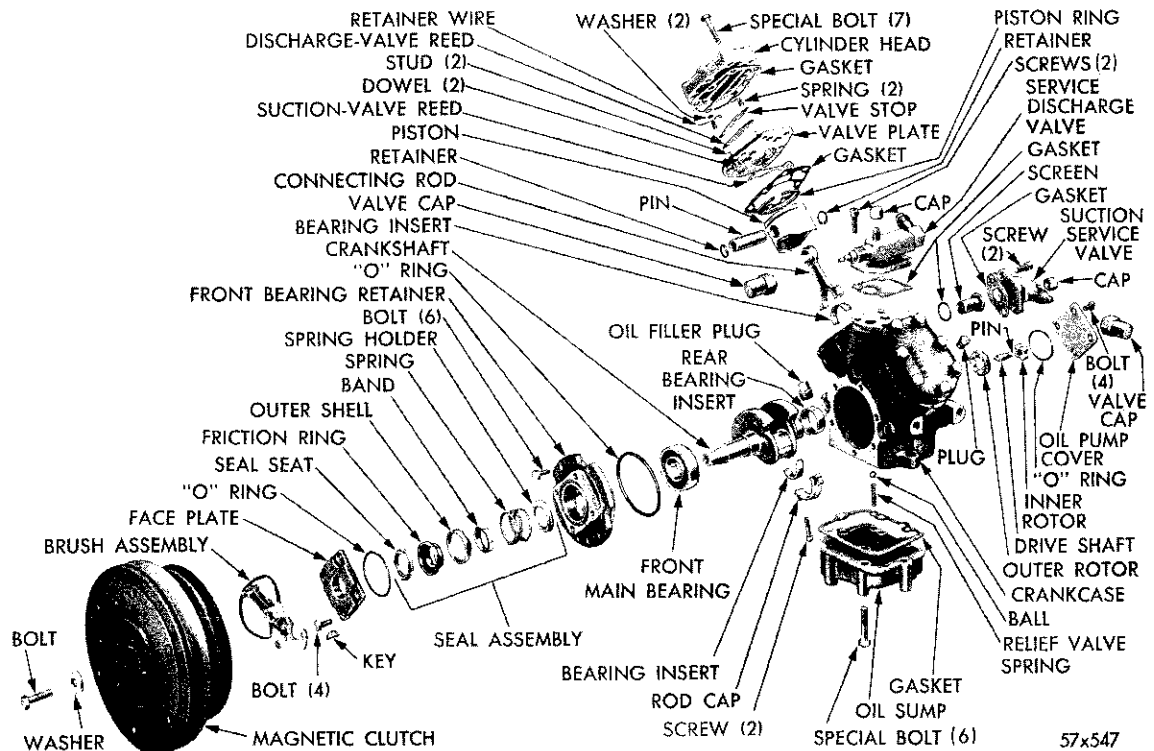

Fig. 28—Disassembled View of Compressor
**27. REMOVAL AND INSTALLATION OF COMPRESSOR (Fig. 28).**